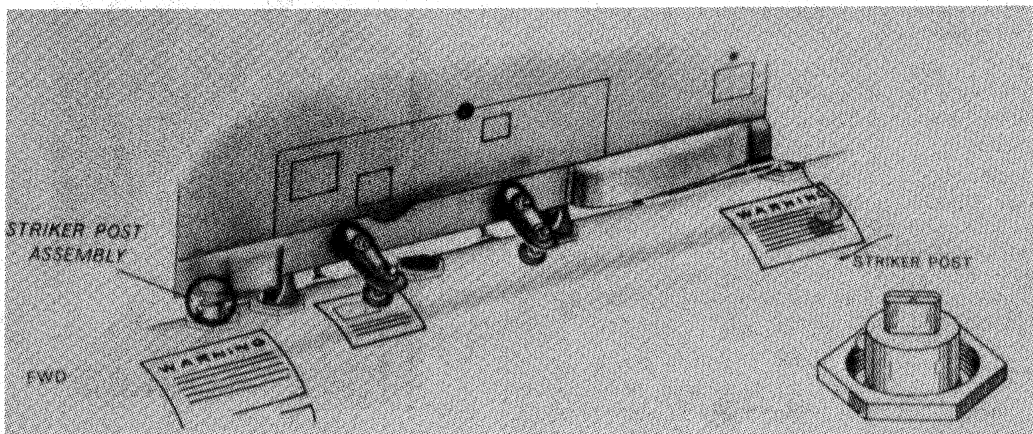

Figure 2-5. Installation of Striker Post Assembly
jection on the Post Assembly pointed forward. The AFT receptacle must have the Ground Button installed with Dust Cap hanging freely. (Figure 2-5).
- a. Striker Post Assembly (Figure 2-5) — Electrical connection is made by lowering contact on bomb rack until a positive connection is made with contact on Post Assembly.